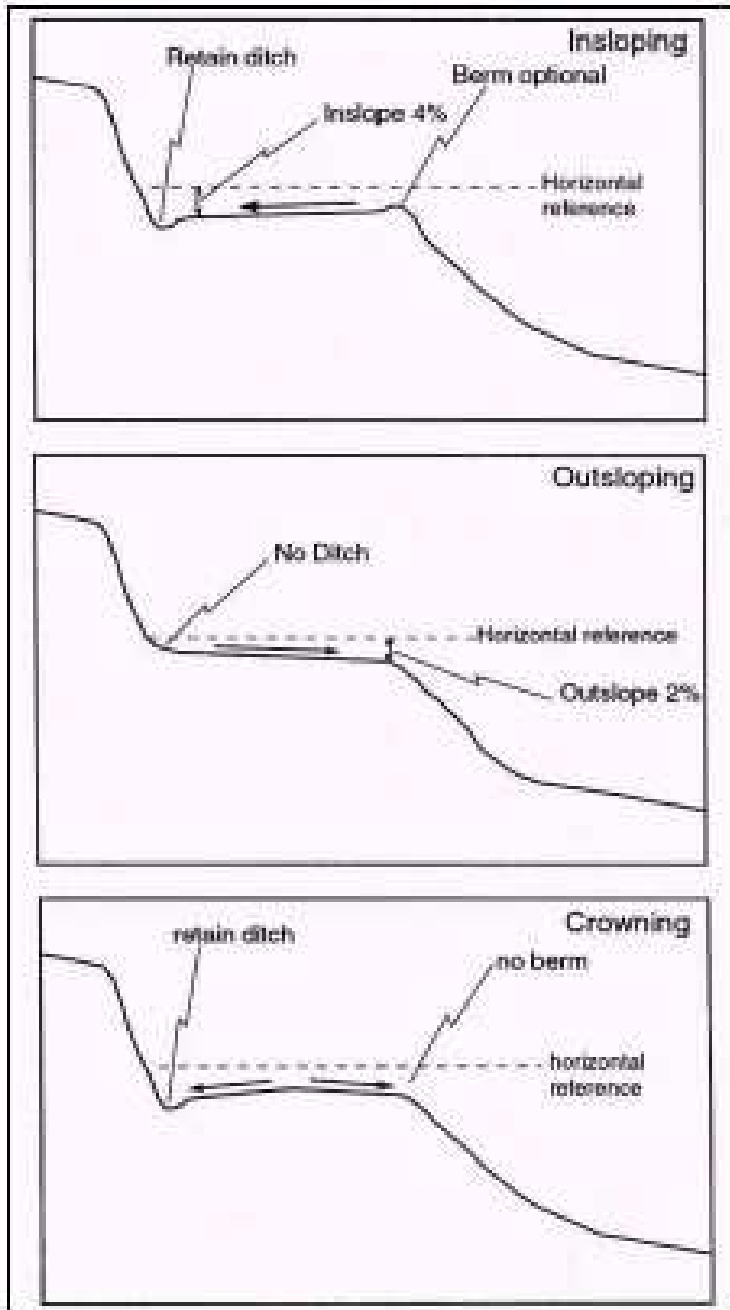

Figure 5.2 Utilizing road shape to reduce surface runoff. California Salmonid Stream Habitat Restoration Manual Chapter X. CDFG 2002.
- ✓ Road surface shape (i.e. insloped, outsloped or crowned) determines whether all or a portion of the runoff, including sediment and chemical pollutants originating from the road right-of-way, are delivered to inboard ditches and stream channels or dispersed onto the adjacent hillslopes. (See Figure 5.2) Most county roads are paved, and this limits the amount of surface erosion that occurs throughout the road system. However, cutbanks, turnouts, ditches and many private drives are not surfaced, and they contribute storm runoff and eroded fine sediment to the road’s surface drainage system, and ultimately to local stream channels.